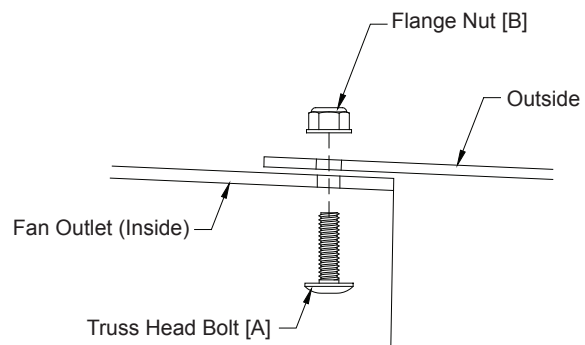

Figure 2
Attach adapter to fan by inserting (4) Truss Head Bolt [A] from inside and securing with (4) Flange Nut [B] on outside. **See Figure 2.** **DO NOT** tighten nuts at this time.